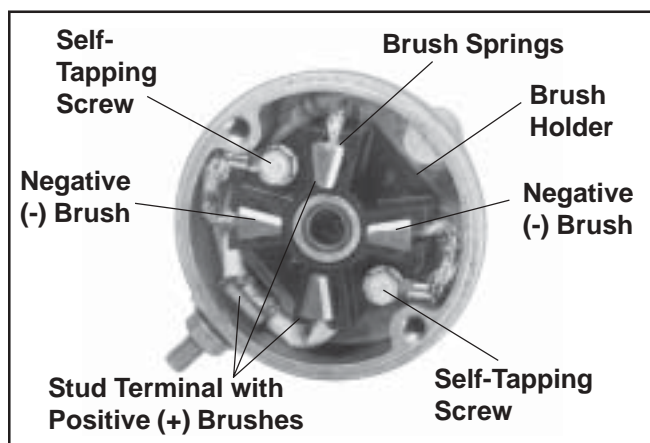

Figure 8-39. Style "A" Commutator End Cap with Brushes.
1. Remove the brush springs from the pockets in the brush holder. See Figure 8-39.